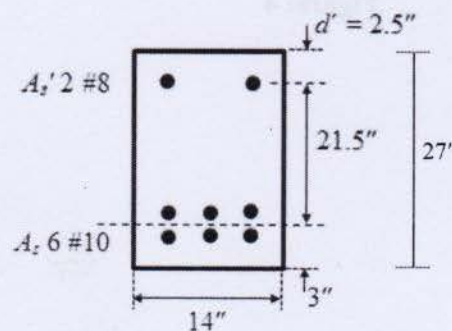

Figure: 2
5. Analyze the section of the beam (as shown in **Figure 2**) to determine the design moment capacity. (20)